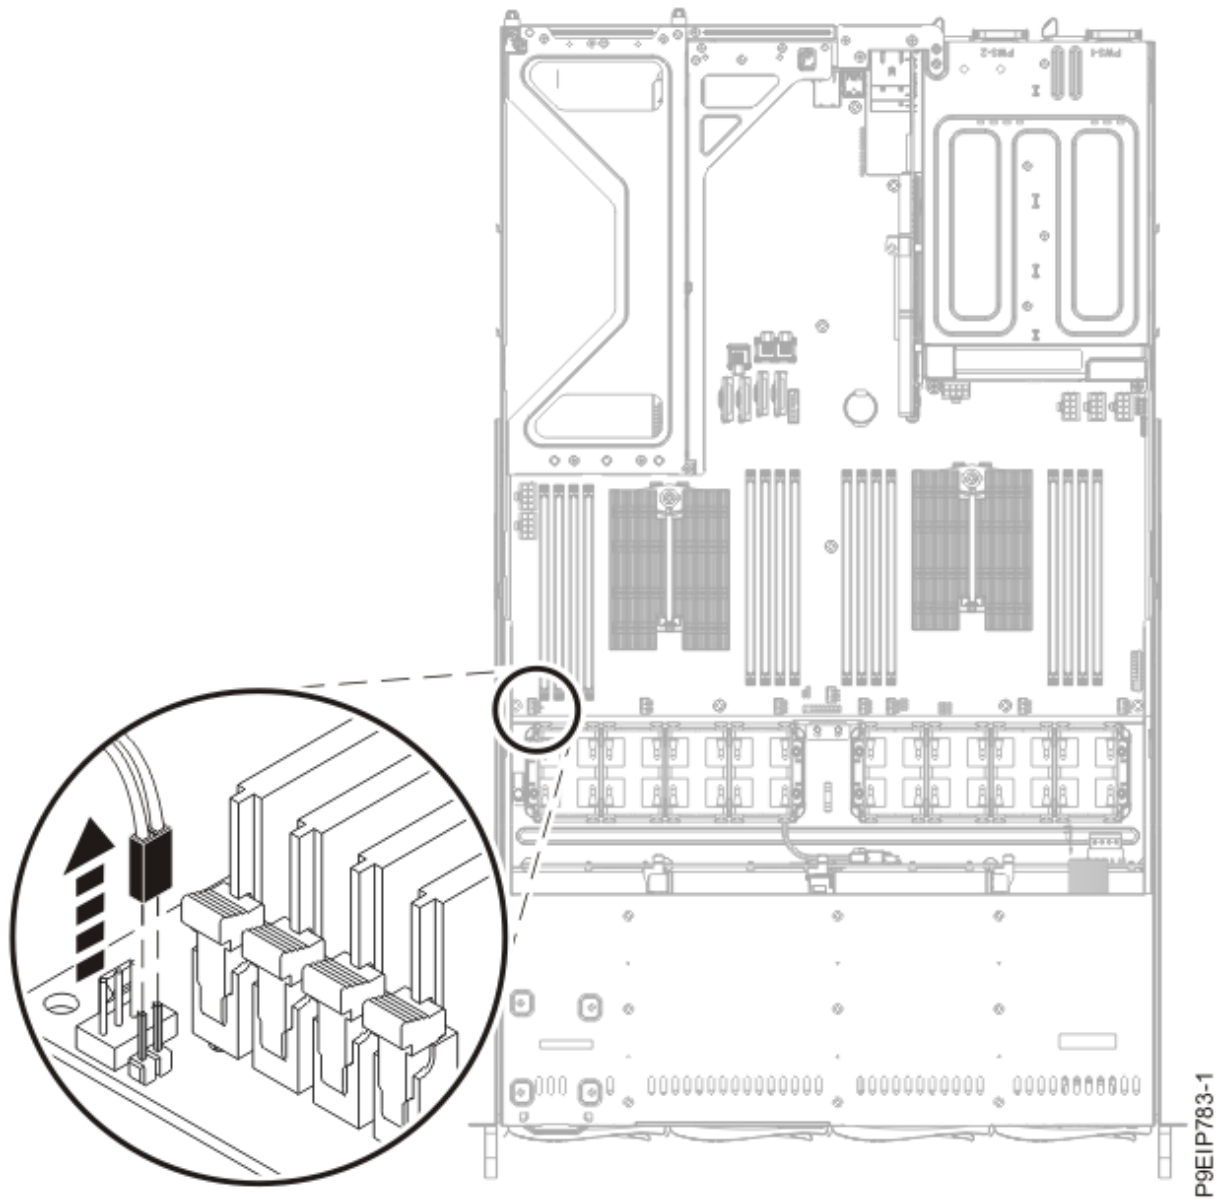

Figure 37. Removing the cover switch cable
9. Note the position and orientation of the cover switch cable. Remove the cover switch cable from the system backplane as shown in Figure 37 on page 43.